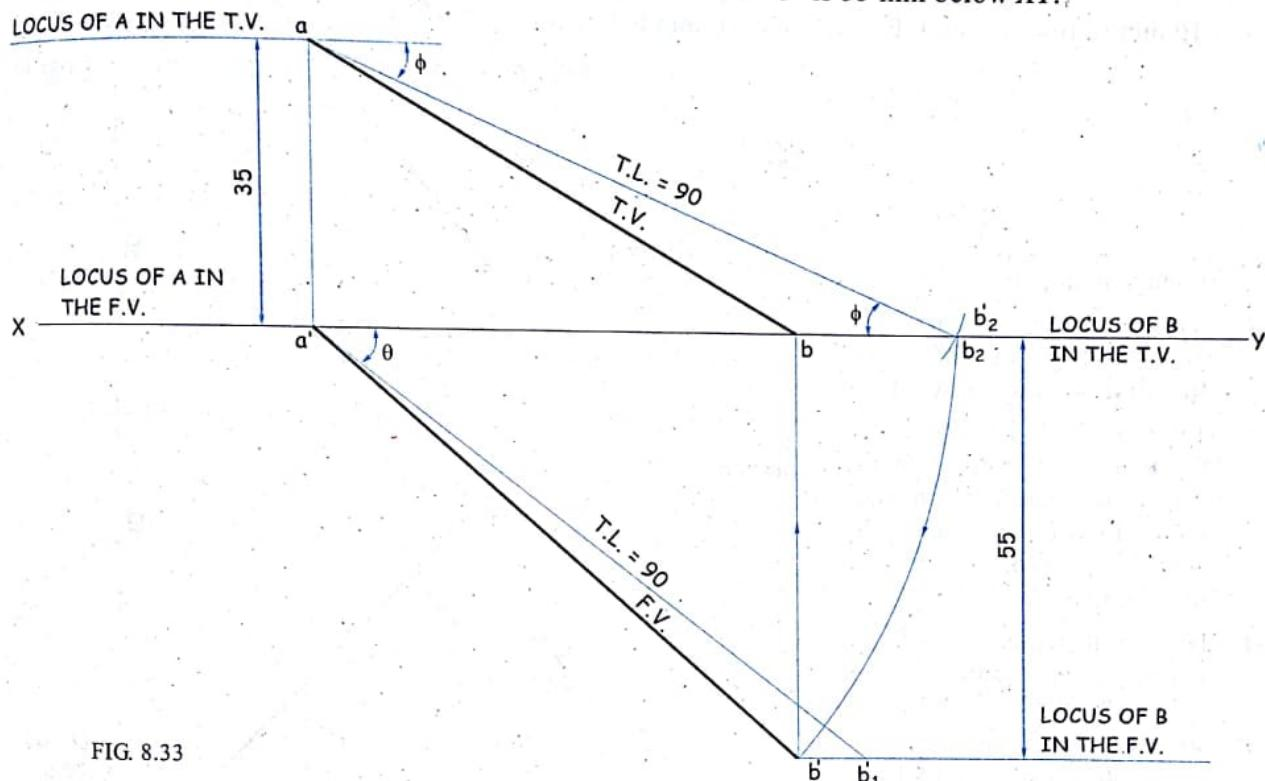

FIG. 8.33
**Solution :** Refer figure 8.33.